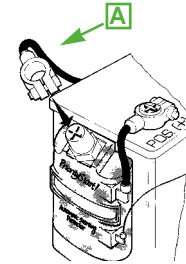

Figure 3
4. Connect vehicle Pos.(+) cable **A** securely to Post Adaptor (item ②) atop PriorityStart! [Fig. 3].
5. Connect PriorityStart! red cable *securely* to Pos. (+) terminal post on vehicle battery [Fig.3].